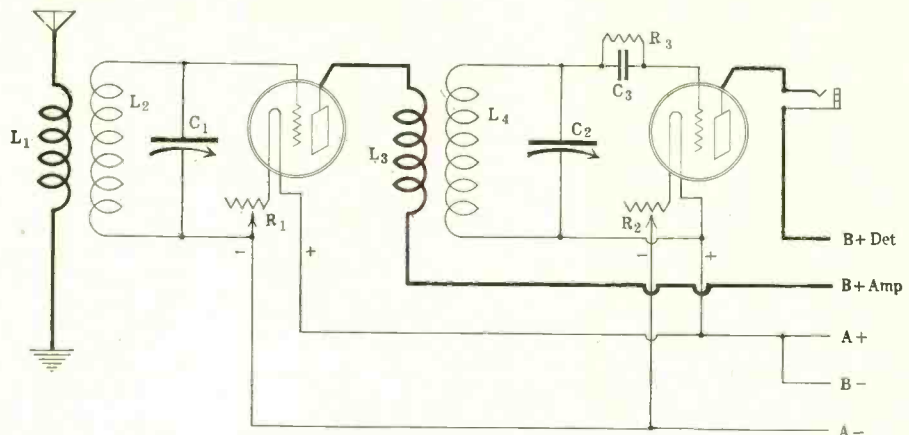
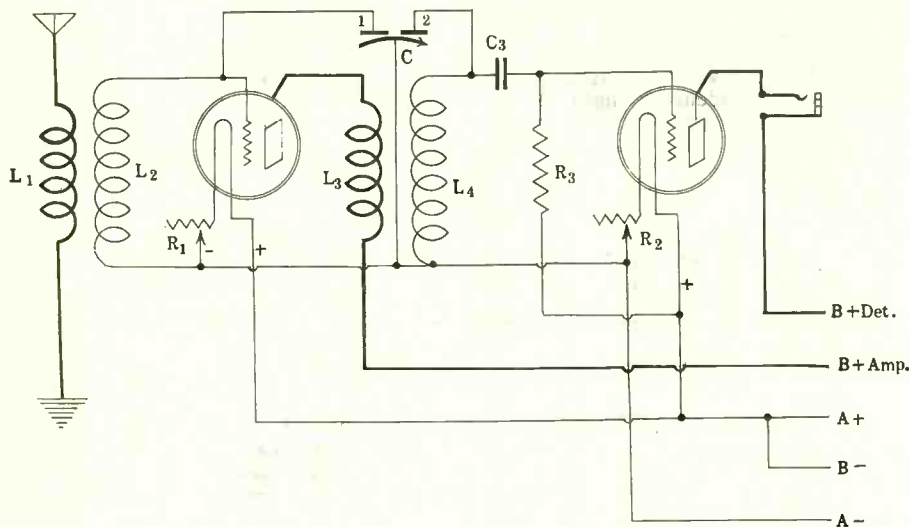

FIG. 1, the fundamental circuit that is to be converted into a single wavelength control tuner.
FIG. 2, the single-control circuit, which represents a 3-fold change from that shown in Fig. 1, as is explained in the accompanying text.
Fig. 1 shows the circuit diagram for wiring a 2-control set which comprises one stage of tuned radio-frequency amplification and a non-regenerative detector tube with tuned input. Notice that the grid return of the RF stage—the terminal of L2 other than the one that goes to grid—is connected to minus A, while the detector grid return is to positive A. Also, observe that the grid leak, R3, is connected in the conventional fashion, in shunt with the grid condenser C3.
Now, as we proceed to convert this into a single-control set we reach that stage of development represented in Fig. 2. This is the fundamental principle of the Power-tone, indeed the very diagram of its RF circuit. These changes have taken place:
(1) The receiver shown in Fig. 1 has been converted from two tuning controls to one.
(2) The low potential end of the detector input secondary L4—the so-called grid return end—has been switched from positive A to negative A.
(3) The low potential end of the leak (at left in Fig. 1) has been connected direct to positive A instead of through the coil L4 to positive A.
While it is possible to make the grid positive when a potentiometer is used, it is impossible to make it positive by the rheostat method of grid bias control, in any of the hookups illustrating this article, since when the tube is alight, even if the rheostat knob is set so as to cause a short-circuit of the entire DC resistance of the windings or granules, there results only zero bias on the grid, whereas when the tube is just barely lighted (with all the resistance of the rheostat in the circuit) the negative bias on the grid is equal to the difference in potential between that applied at the negative leg of the filament and that at the grid itself. Using —01A tubes, with a 6-volt battery to supply the wattage, and a 20-ohm rheostat, the drop in the rheostat will be about 1 to 1½ volts. Hence by looking at Fig. 1 or Fig. 2, and assuming a 1-volt drop, you can see at a glance that with the grid connected to minus 6 volts and the filament heated at 6 less 1 at the negative leg, the maximum negative bias would be 1 volt, and from zero bias to 1 volt negative bias is an effective range in point of actual utility.
Fig. 2 shows the hookup with the 2-section condenser designated as C and with the two separate stators marked "1" and "2," because these in Fig. 2 correspond to C1 and C2 in Fig. 1.
The fact that the inductance of L4 is too small may be confirmed experimentally by connecting up a variable condenser in parallel with L4, in addition to leaving intact in the circuit the No. 2 section of the condenser C in Fig. 2. Indeed, as the condenser is easily hooked up, many may prefer to try that method before introducing the aerial admidships. Any popular capacity tuning condenser may be used for the purpose, since at zero setting it will represent a very small capacity, say .00005 (50 micro-microfarad). With an undersized secondary at L4 and the test condenser at zero setting (not zero capacity, for that it can never have), it will increase volume, or when the condenser